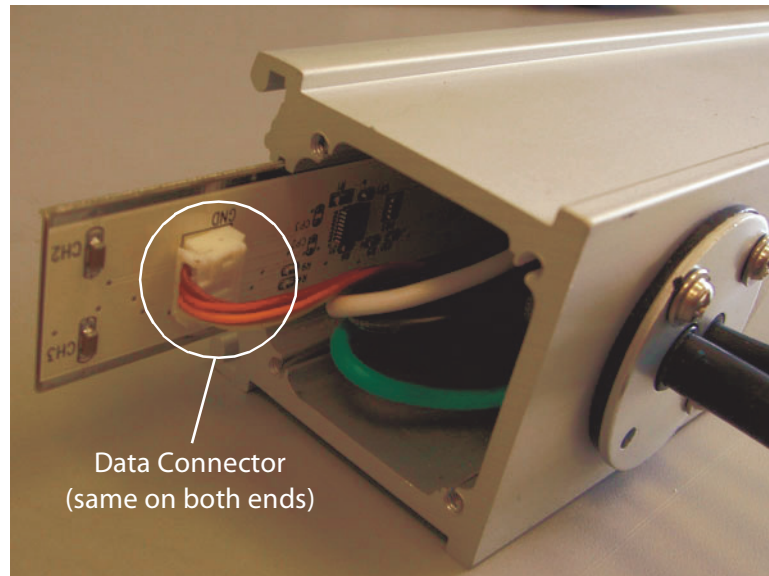

Figure 3.4 Versa TUBE Data Connector Location
- 1 Unplug the data connectors (see Figure 3.4).